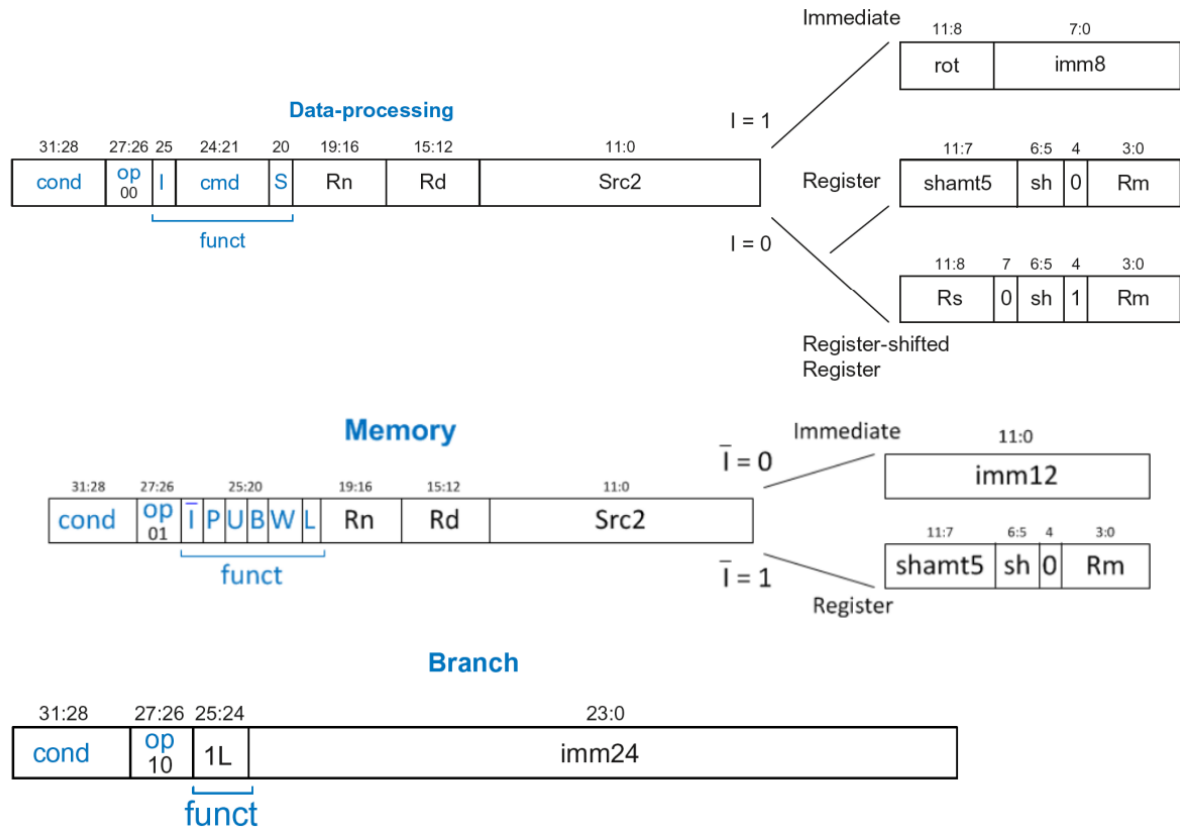

Figure 1: ARM ISA Format
**Note:** You will use the 32-bit ARM ISA format as shown in Figure 1. You can check any web resource for instructions not explained here, as we use standard ARM format.